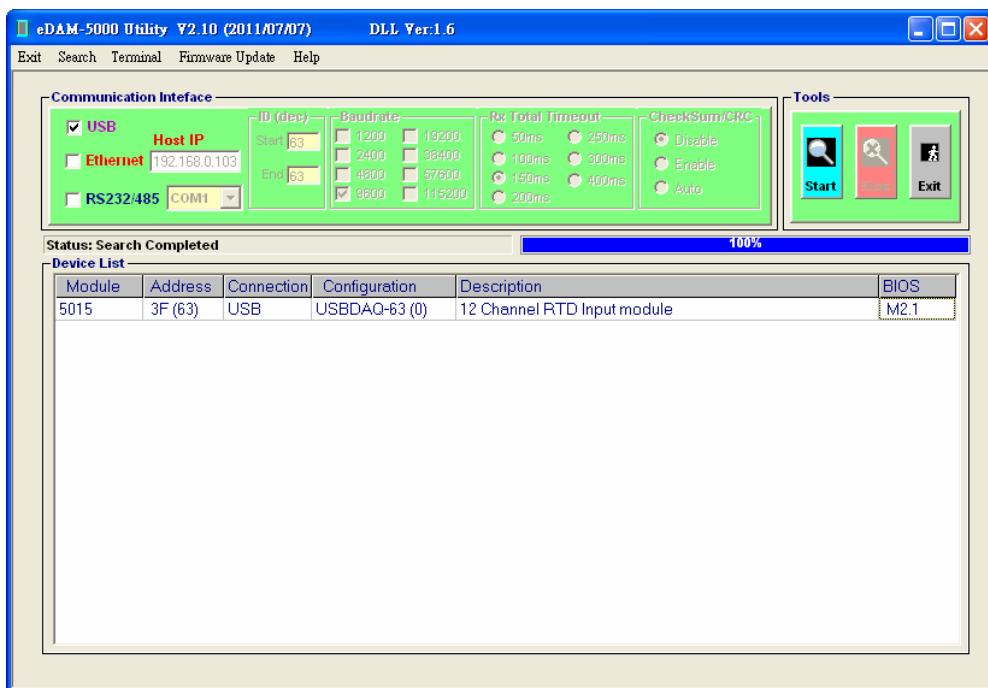

Figure 15-3
3. Executes provided EDAM-5000 utility called “E5KUtility.exe” (see Figure 15-3)